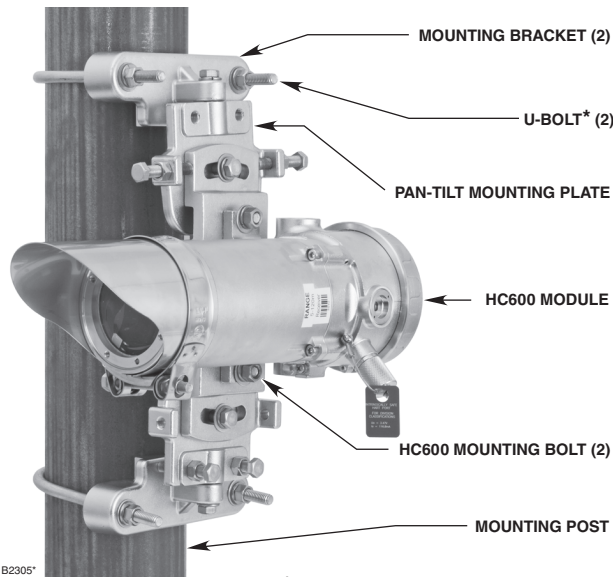

Figure 5—HC600 Gas Detector Mounted to Vertical Post
- A vertical post with a nominal outside diameter of 4.5" (11.43 cm). Acceptable outside diameter range is 4.0 to 5.0 inches. See Figure 5.